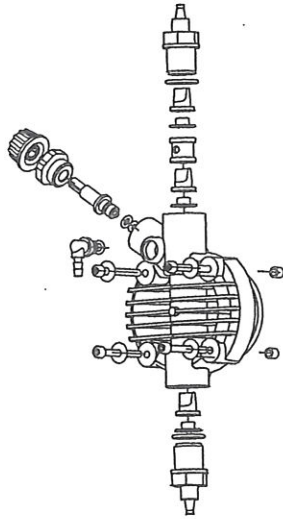

Fig. 11
- the additive concentration in the process plant; a reduction of this concentration could be caused by the wearing of the valves, in which case they need to be replaced (Fig. 11) or by the clogging of the filter which then has to be cleaned as in point 3 here below.
This operation can also be done with the pump disconnected from the plant by turning the pump upside-down for 15 to 30 seconds and without connecting the hose to the nipples; if impossible, dismount and remount the pump head (Fig. 11) using the four mounting screws.
As the system is quite robust there are no apparent mechanical problems. Occasionally there might be a loss of liquid from the nipple because the tube nut has loosened, or more simply the discharge tubing has broken. Very rarely there may be losses caused by the breakage of the membrane, or by the membrane seals in which case they have to be replaced by disassembling the four screws of the pump head (fig. 11), when re-mounting the pump head ensure that the screws are replaced properly, along with "O" ring. After repair, the metering pump will need to be cleaned of additive residues which can damage the pump coating.
① - THE METERING PUMP GIVES PULSES BUT THE ADDITIVE IS NOT INJECTED
- a. Dismount the suction and discharge valves, clean them and replace, see position (fig. 11). Should the valves be swollen, check valves material against our chemical resistance compatibility chart and fit correct valve. Standard valves are Viton. Upon request Silicon, EPDM (Dutral), Nitril and valves, ball check valve, K valve can be supplied.